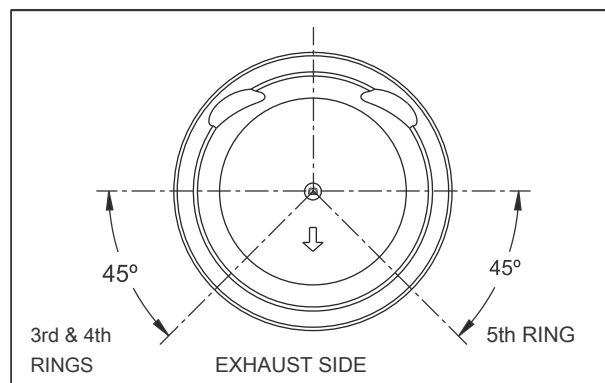

Fig. 3.96
- Assemble the separator oil ring (3rd ring) locating its end gap towards exhaust side (aero marked) of the piston at 45 degree to the left from the center. (Fig. 3.96)
- Assemble the oil ring (bottom - 5th ring) locating its end gap towards exhaust side of the piston at 45 degree to the right from the center. (Fig. 3.96)
- Assemble the oil ring (top - 4th ring) locating its end gap towards exhaust side of the piston at 45 degree to the left from the center. (Fig. 3.96)